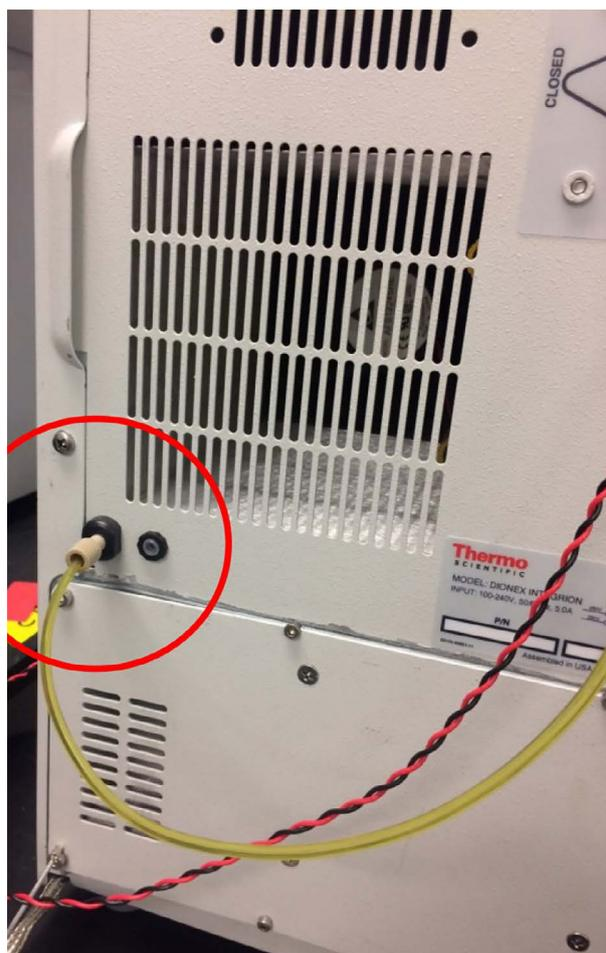

Figure 4. Installing the vacuum connection on the Dionex Integrion HPIC system.
Hydroxide eluents produced by eluent generation require inline vacuum degassing to achieve the optimum conditions for electrochemical detection. Vacuum degassing is accomplished by connecting the vent line of the degas module to the vacuum pump port on the back of the instrument (Figure 4). In the Dionex Integrion HPIC system configured with an electrochemical detector (ED), the vacuum pump connector is pre-installed, eliminating the manual installation previously required.
To assist in degassing the eluent, install a ¼" i.d. air tubing from the EG Degas module (P/N 075522) vent port to the vacuum connection in the back of the Dionex Integrion HPIC system (Figure 4). The degasser pump will turn on again for a short time to re-establish the vacuum. If the degasser pump stays on for longer than 1 min, tighten the fitting (Figure 4) ¼ turn.